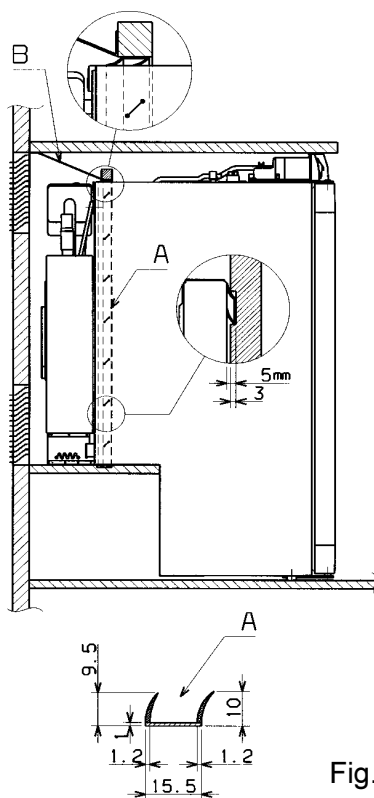

Fig.1
Insert deflector plate (B), fitted with a lipped seal (A) of heavy-duty, nonflammable material, into the installation recess (see Fig. 1).
In addition, discharge plate (B) with its lipped seal (A) must seal the refrigerator off from the living area (see Fig. 1).